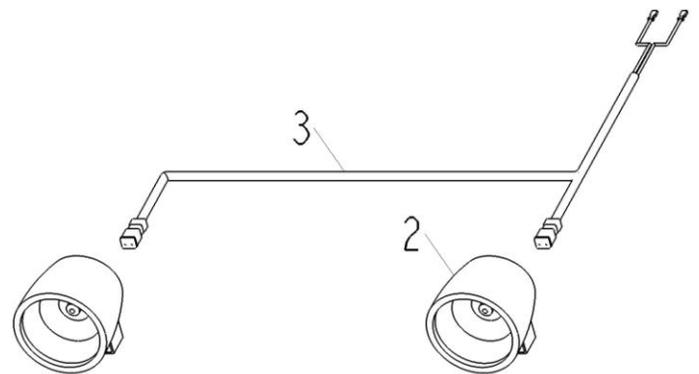

Figure 2. Plow Side Light Harness. G10691
- 4) Plug Plow Side Light Harness (3) into Headlights (2) with longer lead of Plow Side Light Harness (3) going to Passenger Side Headlight. See Figure 2.
- 5) Run loose end of Plow Side Light Harness (3) into Coupler through Grommet at back of Coupler.